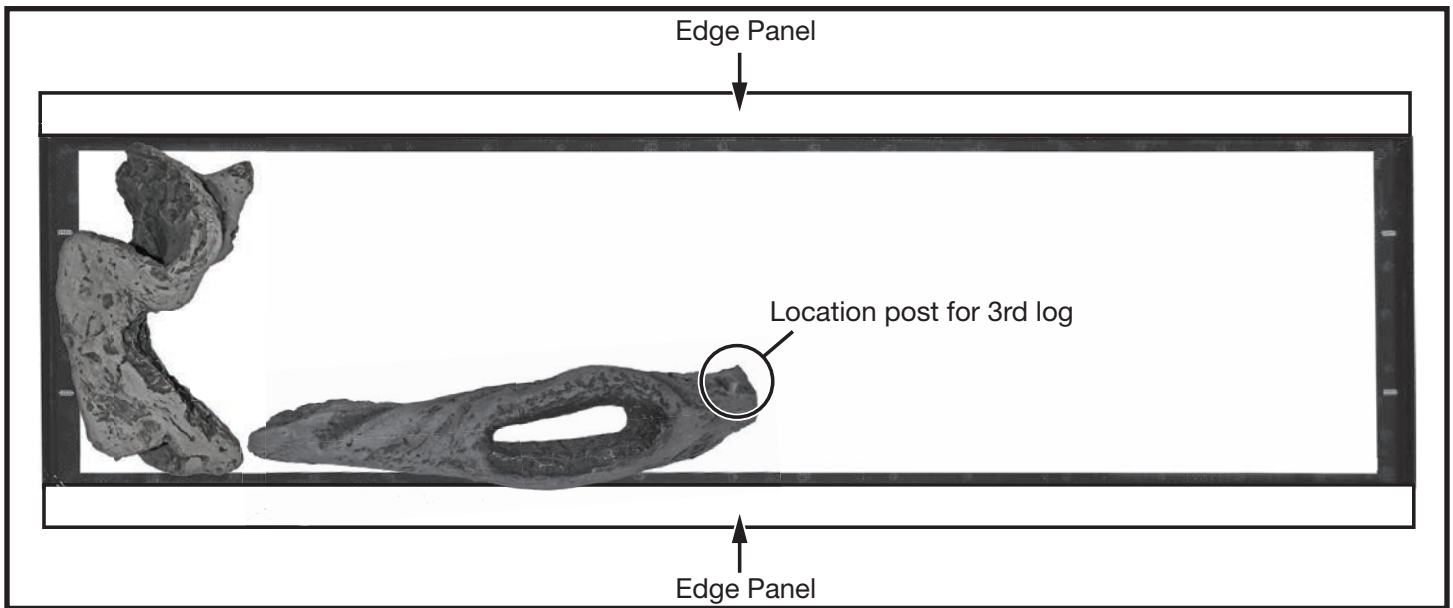

Figure 39: Log 2 placement.
2. Place the 2nd log so that the middle of it overhangs the tray itself and rests on the edge panel as shown in Figure 39. Note that there is a location post for the 3rd log at one end of the 2nd log. This location post should have a vertical alignment.